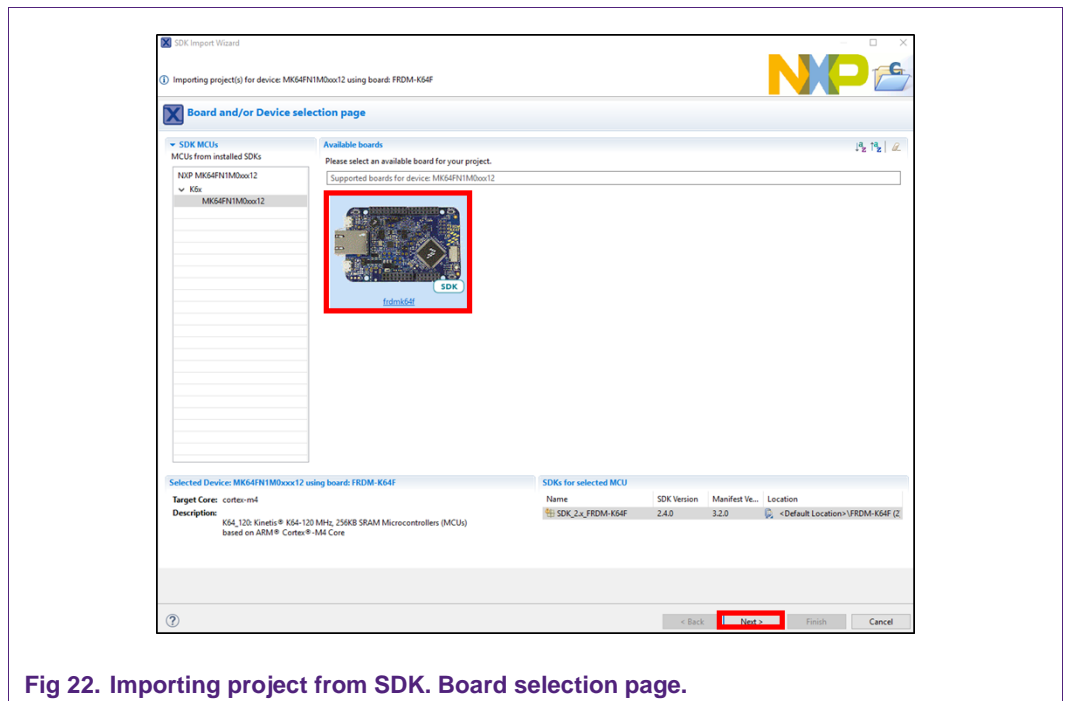

Fig 22. Importing project from SDK. Board selection page.
2. Select 'frdmk64f' from Available boards and then click the next button (Fig 22).